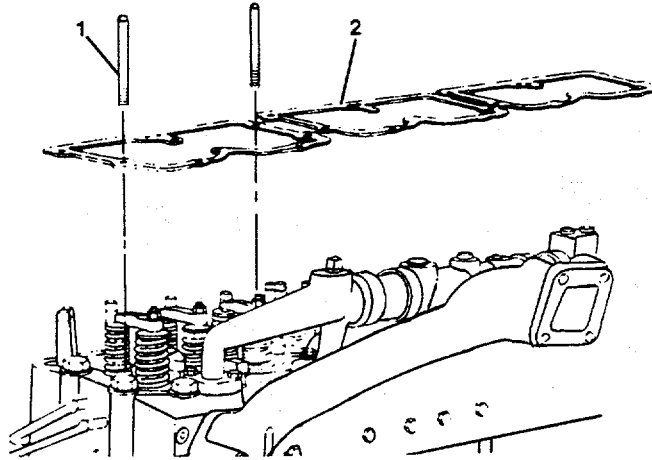

FIGURE 2-26. Rocker Housing Gaskets and Guide Studs.
- a. Install new rocker lever housing gaskets (2, Figure 2-26) on the cylinder heads.
- b. Install two rocker lever guide studs (1) in each cylinder head.
- (2) Remove the guide studs (1, Figure 2-26).